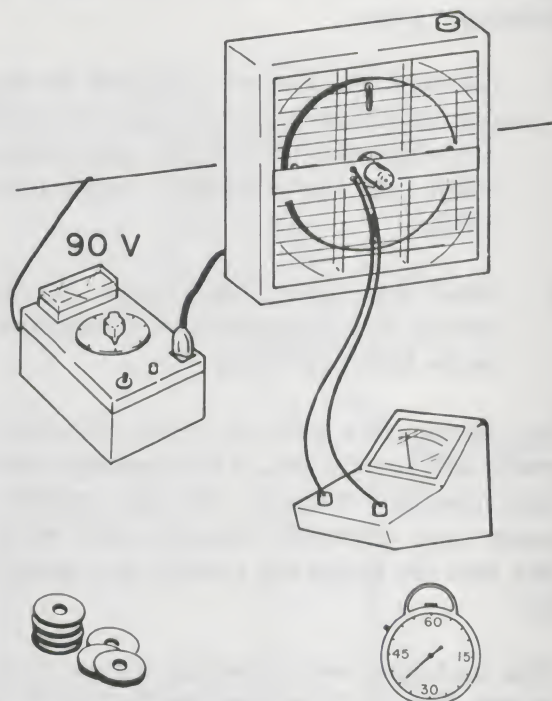

Figure 31. Here you will measure the acceleration produced by the motor as you change the mass of the disk.
1. *Set up the fan* as shown in Figure 31. The disk is identical to that used in Experiment B-2 (that is, with no masses attached).